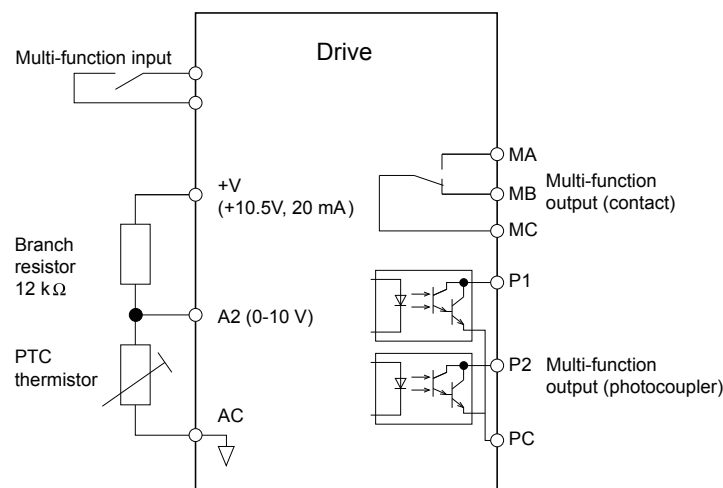

Figure 5.77 Connection of a Motor PTC
**Figure 5.77** shows a PTC connection example for analog input A2. If using analog input A2, make sure to set DIP switch S1 on the terminal board for voltage input when using this function.